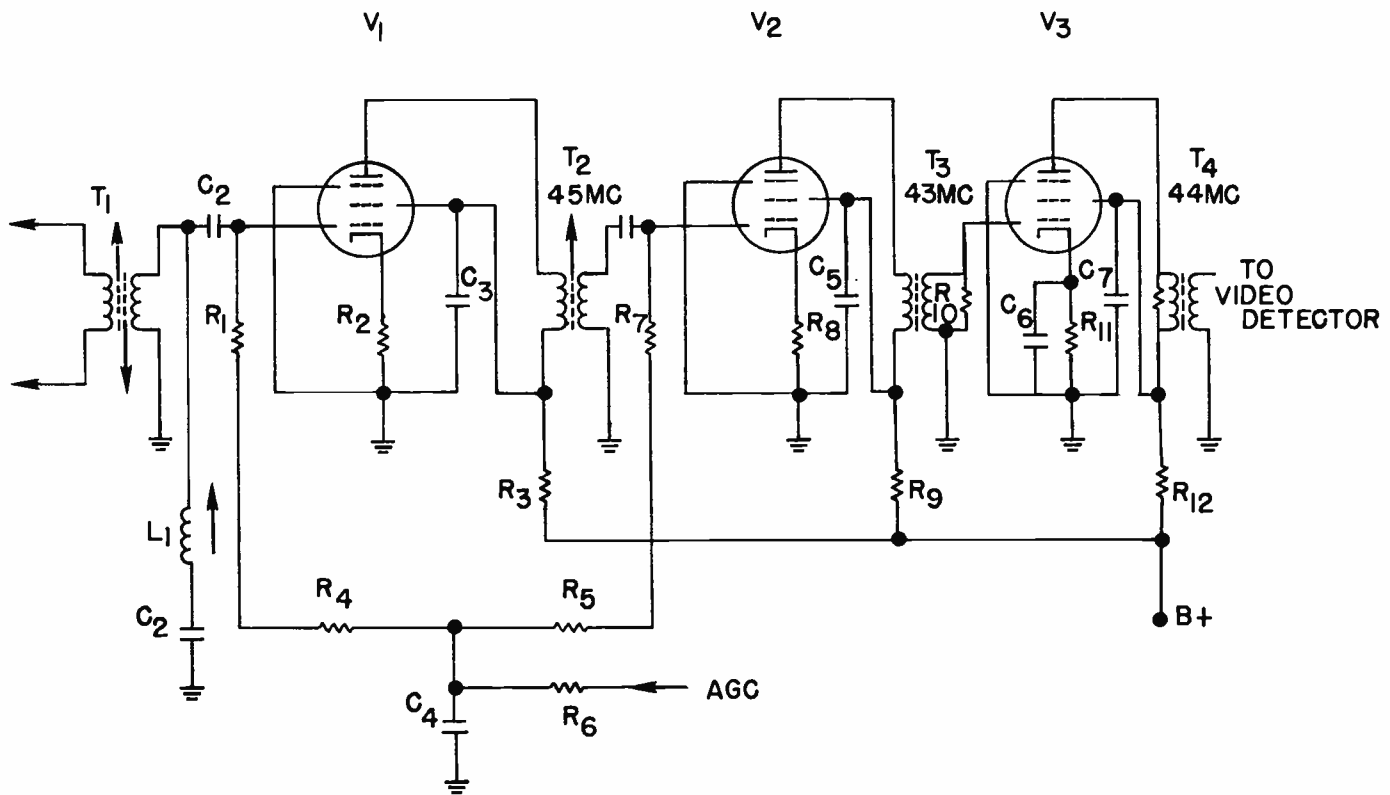

Fig. 8. A typical three-stage monochrome video i-f amplifier.
A typical video i-f amplifier from a black-and-white television receiver is shown in Fig. 8. In this amplifier, the oscillator in the tuner operates at a frequency 41.25 mc above the sound carrier and 45.75 mc above the video carrier, so that the video i-f frequency is 45.75 mc and the sound i-f frequency is 41.25 mc. As we pointed out, this is standard procedure in modern TV receivers.
Both the sound and video signals are amplified by the i-f amplifier shown in Fig. 8, and both of these signals will be fed to the video detector. You notice that the sound i-f signal at 41.25 mc is well down on the response curve, so it does not receive as much amplification as the video signals. This is done deliberately to avoid developing too strong a 4.5 mc signal in the video detector. You will study video detectors later in this lesson, and we'll go into detail on exactly what happens in this circuit at that time.
The circuit shown in Fig. 8 is a three-stage video i-f amplifier using tubes. There have been many monochrome television receivers manufactured using only two video i-f amplifiers. With modern tubes, that have a mutual conductance of between 20,000 and 30,000, it is comparatively easy to obtain sufficient gain in a two-stage video i-f amplifier, even though the resonant circuits used in the amplifier might have a comparatively low Q .
The video i-f amplifiers shown in Fig. 8 and Fig. 10 are typical of the amplifiers you'll encounter in monochrome television. It would be worthwhile to go over these circuits several times. You'll see that there are many similarities between the two. Generally speaking, you'll find one or more traps in the input of the first video i-f stage to prevent interference that will fall outside of the channel. You'll also frequently find a sound trap, such as you did in the circuit shown in Fig. 10, to reduce the amplitude of the sound signal. You'll also find that the i-f transformers are usually stagger-tuned, one towards the high end, one towards the low end, and if a third one is used it will be a broadband transformer that is tuned to the middle of the i-f passband.
- (i) In the circuit shown in Fig. 8, what is the purpose of L_1 and C_2 ?